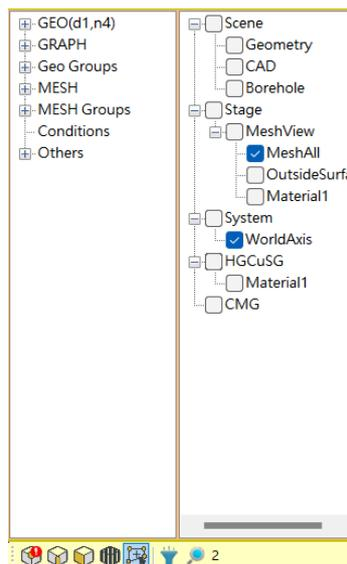

Figure 1.19. Panel view.
12. In the panel, select 'CreateGroup'  as shown in Figure 1.19.